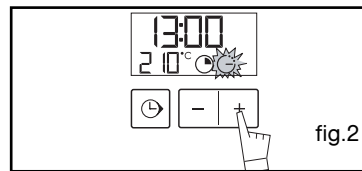

fig.2
- Adjust the chosen time by pressing the touch controls + or - (fig.2).